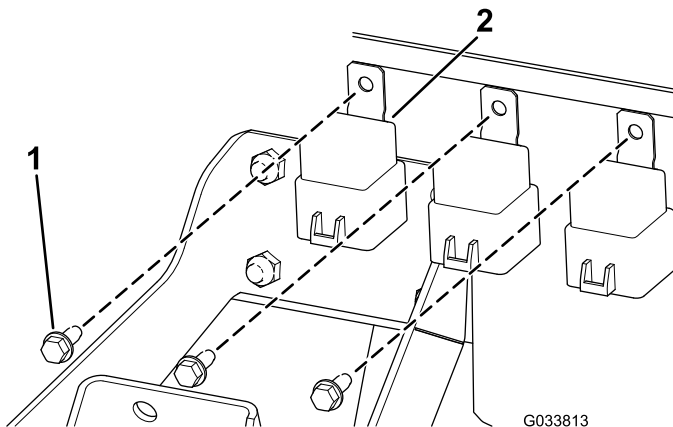

Figure 7
1. Install the 3 relays into the control-panel frame with the 3 hex-head screws (1/4 x 5/8 inch) as shown in Figure 7.